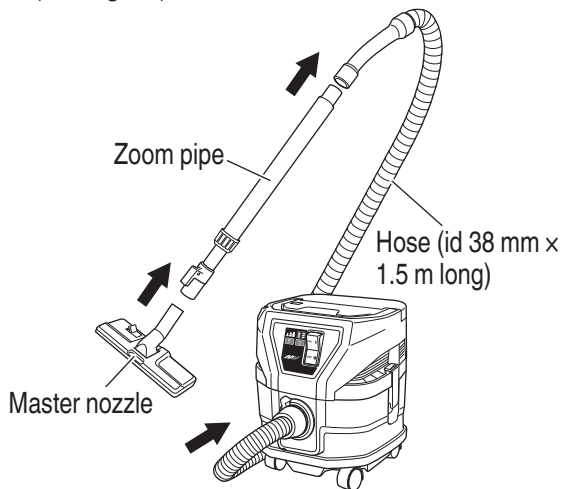

Fig. 19
- (1) Connect in order of Hose (id 38 mm x 1.5 m long), zoom pipe and Master nozzle. Connection is done by pressing in the direction of the arrow. The suction mouth for crevices can also be attached depending on the application. (see Fig. 19)